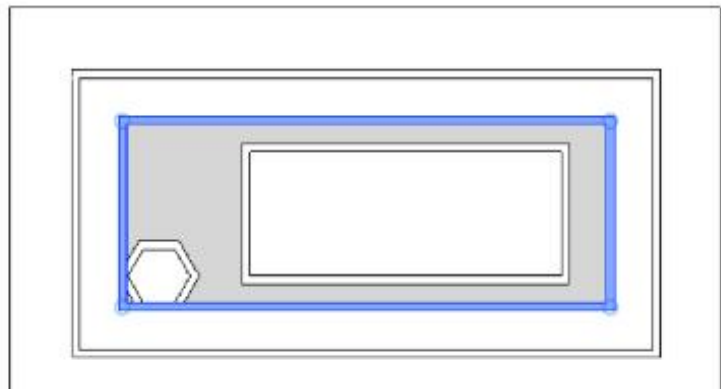

Figure 11–15
9. Draw this short wall around the opening, as shown in Figure 11–15.